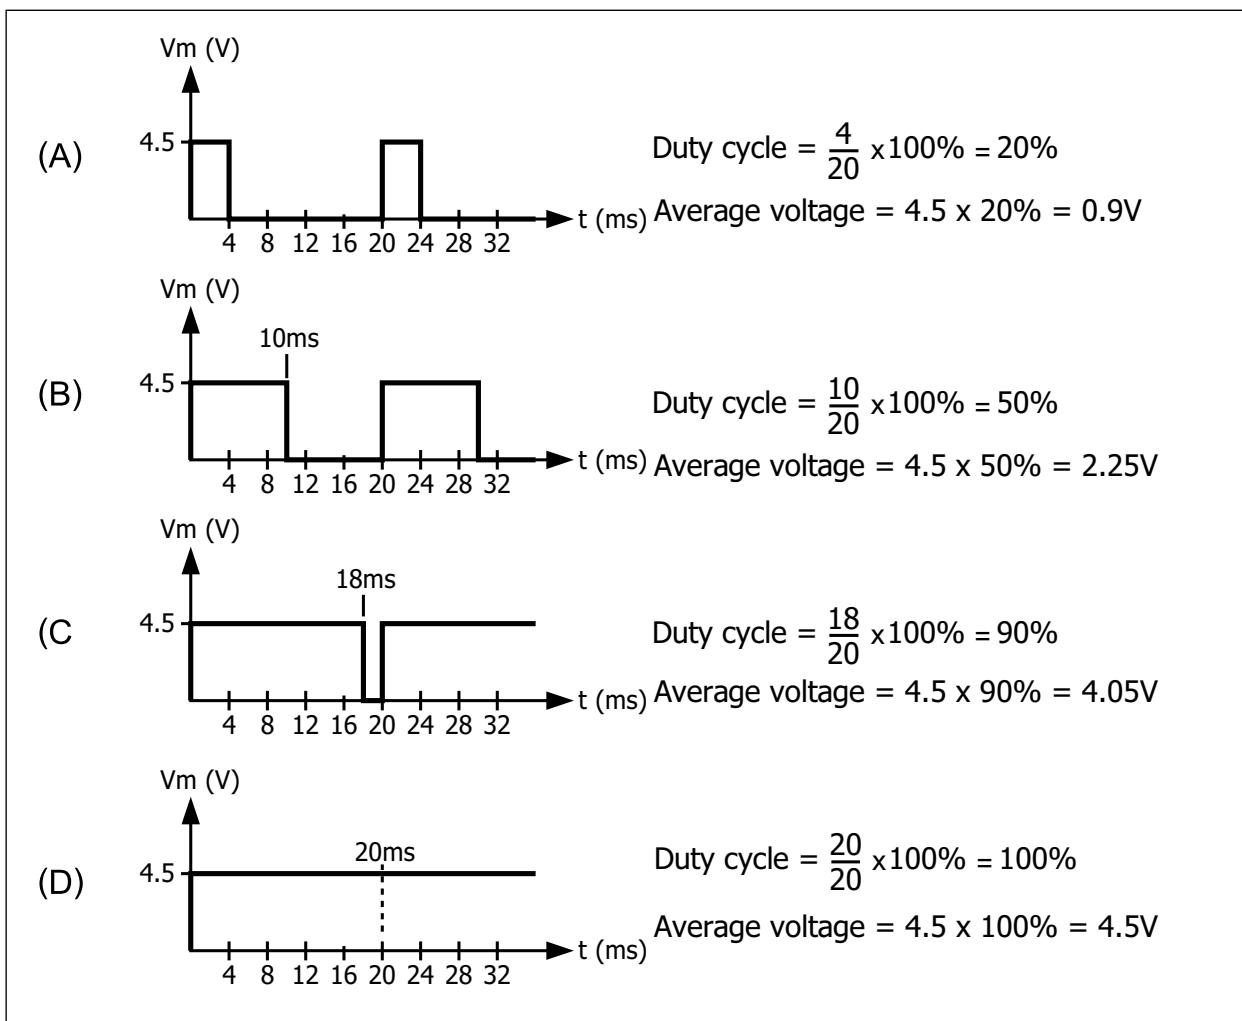

Figure 5-2 : Shows the relation between the different duty cycle and voltage accross the DC motor.
Although the duty cycle is determine the motor speed. But DC motor can operate at limit frequency. If the PWM frequency is over the limit, DC motor will stop because its operation reach to saturation point. The example PWM signal in figure 5-2 has 20 milliseconds period and 50Hz frequency.
In Figure 5-2 (A) the PWM duty cycle is 20%. Motor will rotate with lowest speed because the voltage drop is only 0.9V. When increase the duty cycle in Figure 5-2 (B) and (C), voltage is applied to DC motor increase. Its speed is increase too.
In Figure 5-2 (D) the voltage is applied to DC motor full level because duty cycle is 100%. Thus, controlling the PWM duty cycle is a method of motor speed control.
The figure 5-2 shows the PWM signal at any duty cycle.
Figure 5-2 shows the PWM signal at any duty cycle.